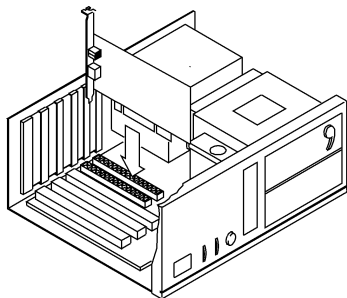

Figure 3-1 Inserting the Adapter into the PCI Slot
5. Insert the adapter into the slot and secure the screw (see Figure 3-1).